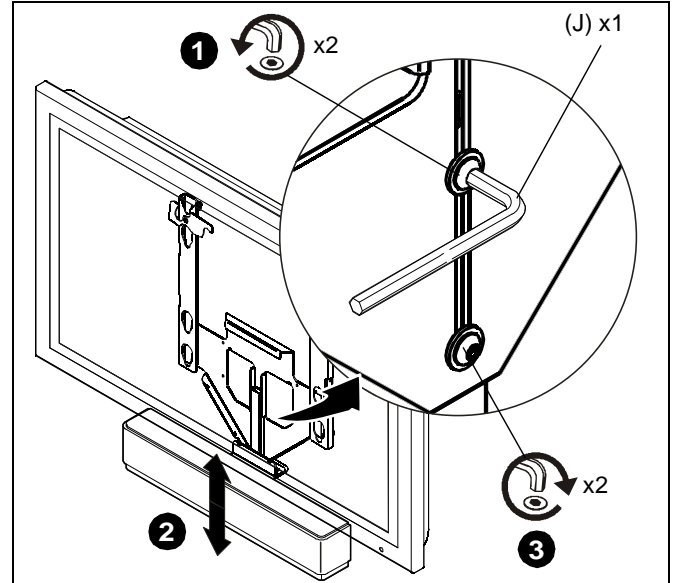

Figure 7
1. Loosen two button head cap screws securing speaker mounting bracket to support plate using 1/8" hex wrench (J). (See Figure 7)
3. Tighten two button head cap screws securing speaker mounting bracket to support plate using 1/8" hex wrench (J). (See Figure 7)